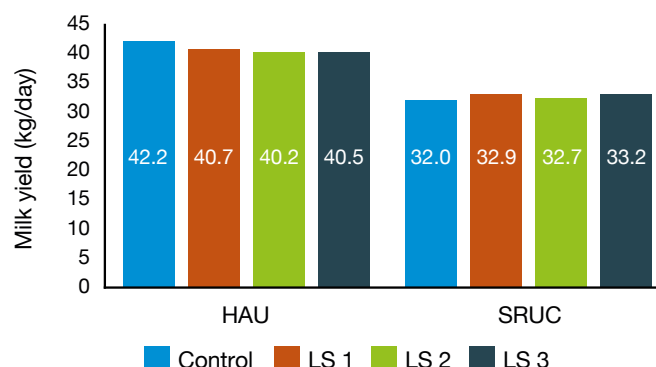

Figure 52. Milk production at HAU and SRUC for the experiment
- Milk production was not affected by treatment at either site (Figure 52)